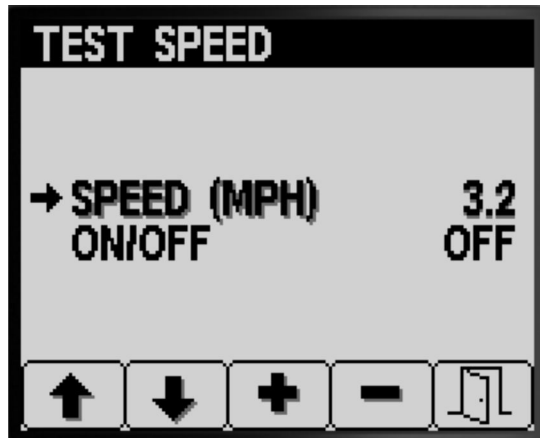

Figure 71
- Press buttons 1 or 2 to navigate to the SPEED option (Figure 71).
- Press buttons 3 or 4 to raise or lower the simulated speed (Figure 71).